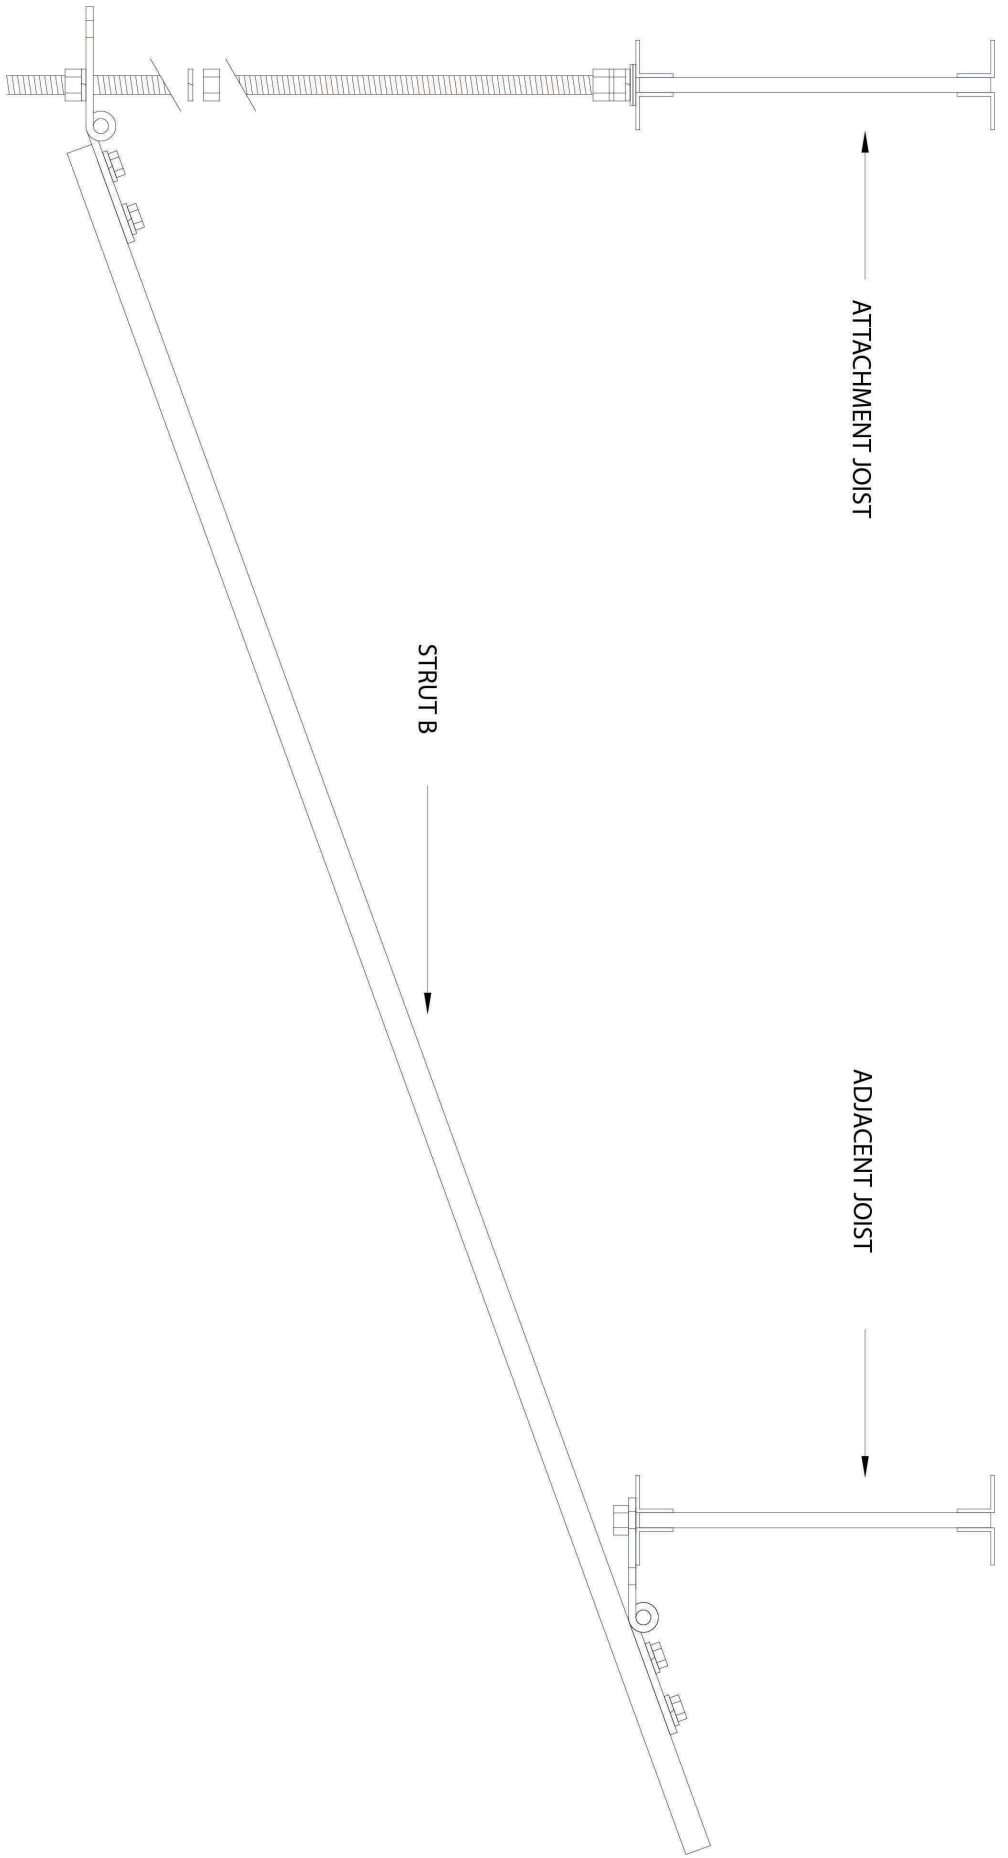

Figure 3
- Loosen the bolts holding the top hinge to the strut so that the hinge will slide on the strut. Put a 1/2" x 2-1/2" hex head bolt through the end hole on the top hinge. Slide the hinge on the brace until the bolt lines up between the bottom flanges of the adjacent joist. Put the bolt between the bottom flanges of the adjacent joist as shown in figure 3. Put two 1/2" fender washers and a lock washer on the bolt. Start a 1/2" hex nut on the bolt and tighten finger tight.